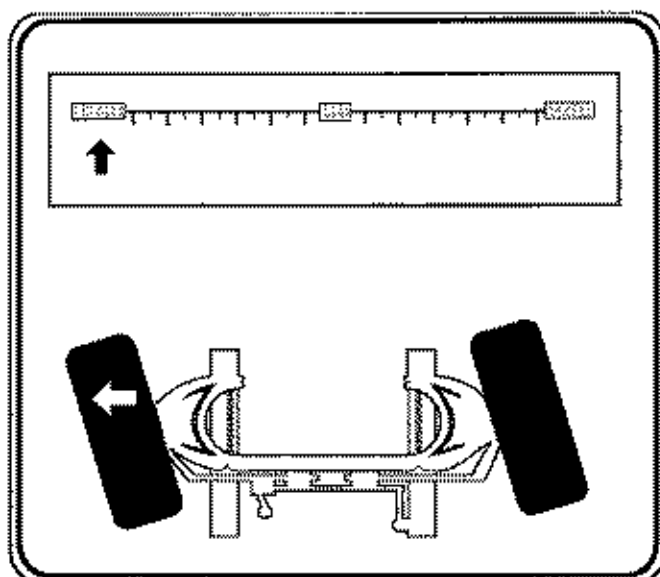

Figure 2-13
1. Turn the steering wheel to the left until the arrow moves into the center of the white range bar on the left side of the meter (see Figure 2-13). When the arrow moves into the acceptable range, the screen displays the message "WAIT" while the alignment machine takes readings.